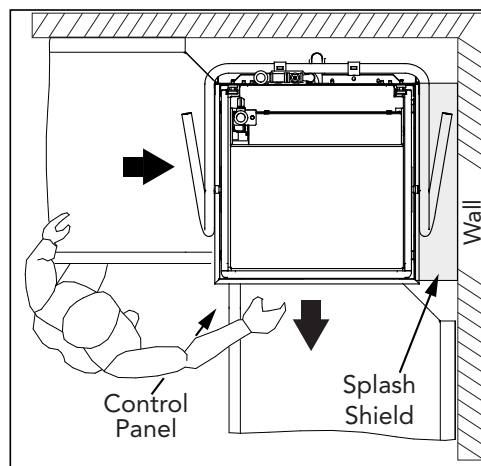

Fig. 1
1. The splash shield is installed on the right-hand side of the dishwasher. (Fig. 1).